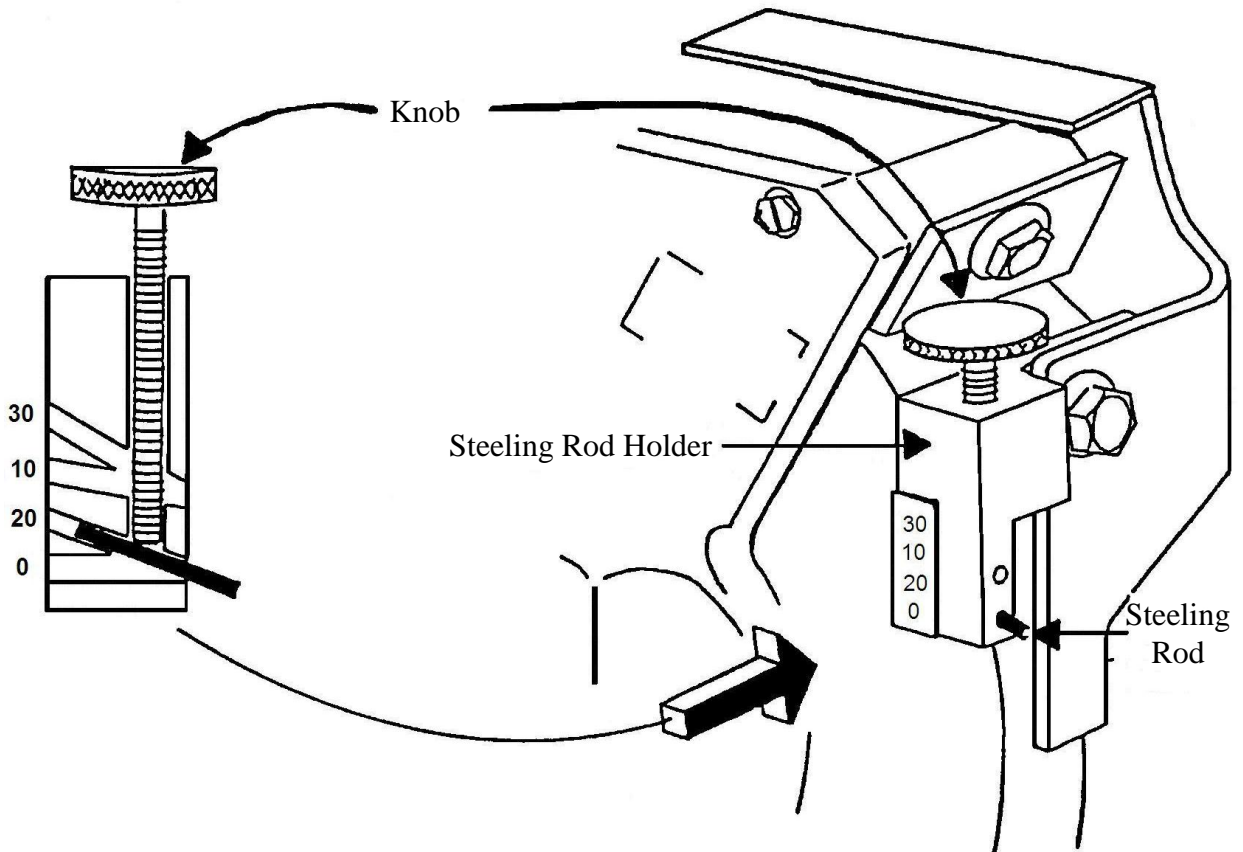

Figure 6
8.3.4 Setting the Steeling Rod Angle (See Figure 6)
The steeling rod holder has four holes that are labeled 0, 20, 10, and 30 degrees. The steeling rod must be placed and secured in the proper hole as described in the table in Figure 6 below. The steeling rod is held in place by the knob.